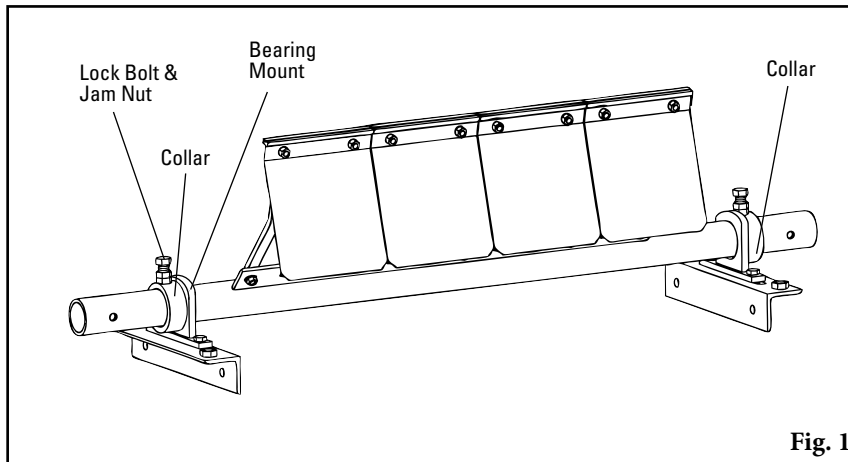

Fig. 1
- 8a. Install the Tensioning System.** With the pole rotated up so that all the tips contact the head pulley, slide a collar on each end of the pole. Position the collars tight against the bearing mounts and tighten the lock bolt and jam nut on each collar (Fig. 1).